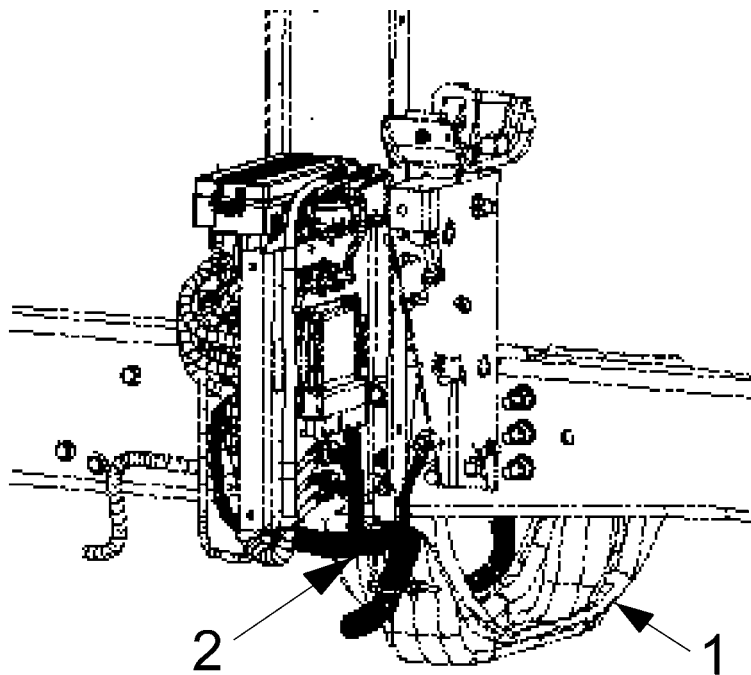
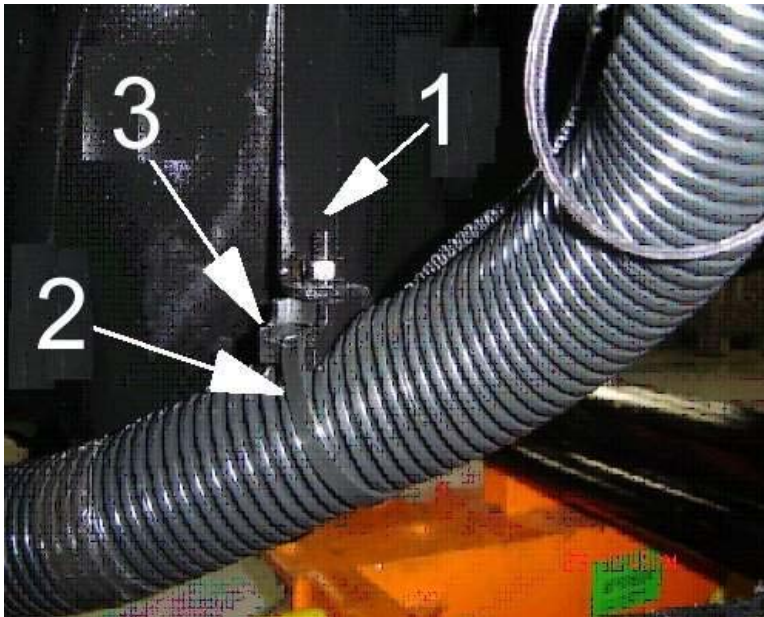

Figure 10 Typical Harness Routing on the Passenger Side of the Engine Crossmember
Figure 11 Install Saddle and Cable Strap Lock to Retain Harness on Passenger Side of Engine Crossmember
18. Follow the main harness to the passenger side to locate the third (3) cable strap lock. Note the harness, cable strap lock and bracket will be on the passenger side of the engine crossmember (Figure 10, Item 2). Remove the cable strap lock, install a saddle to the existing bracket and secure the harness (Figure 11).